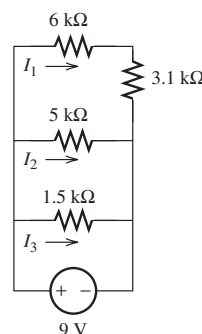

FIGURE P3.25 Circuit for Problem 3.25.
- 3.25** (H) Find I_1 , I_2 , and I_3 in Figure P3.25.